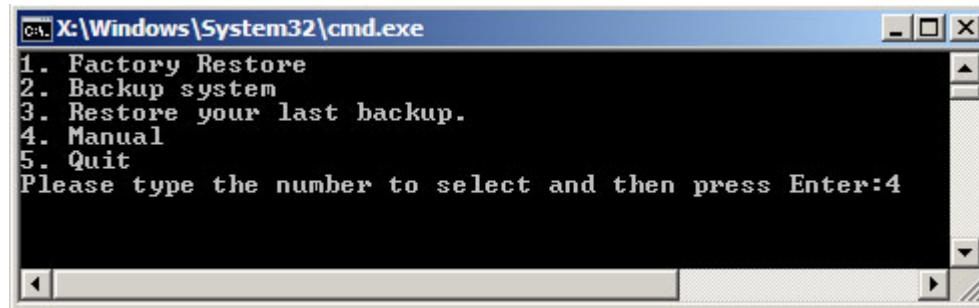

Figure B-11: Recovery Tool Menu
**Step 2:** The recovery tool menu appears. Type <4> and press <Enter>. (Figure B-11)